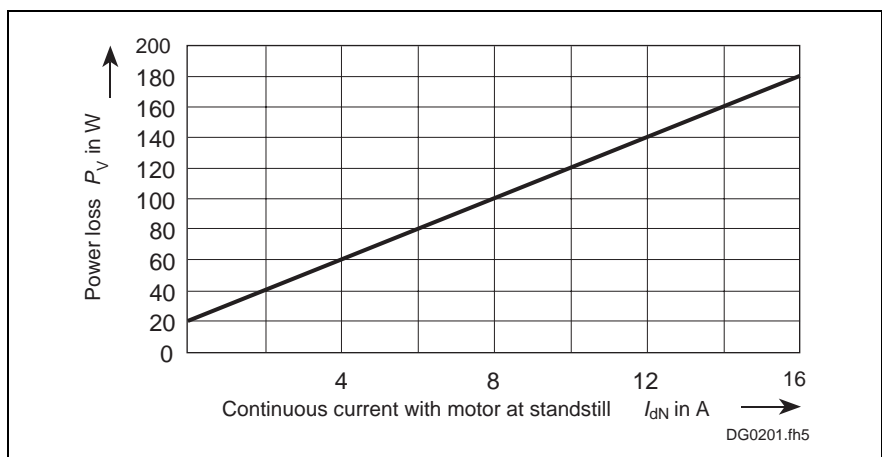

Fig. 10-1: Determining the power dissipated in the control cabinet
- ⇒ Using the I_{dN} value of the motor selected, find the value in the diagram in Fig. 10-1 for the current-dependent power dissipation $P_{V,DKC}$.